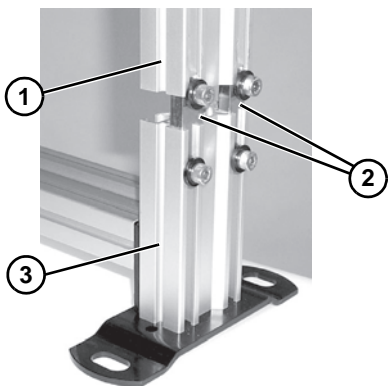

Figure 5
6. Slide stand leg (Figure 5, item 1) over both tube joining bars (Figure 5, item 2) until it is resting on leg of base assembly (Figure 5, item 3).